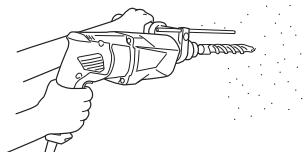

Fig. 8
(1) Mount the drill bit.
(2) Pull the trigger switch after applying the drill bit tip to the drilling position (Fig. 8)
When the drill bit touches an iron reinforcing rod, the bit will stop immediately and the rotary hammer will react to revolve. Therefore please grip the side handle and handle tightly as shown in Fig. 8.